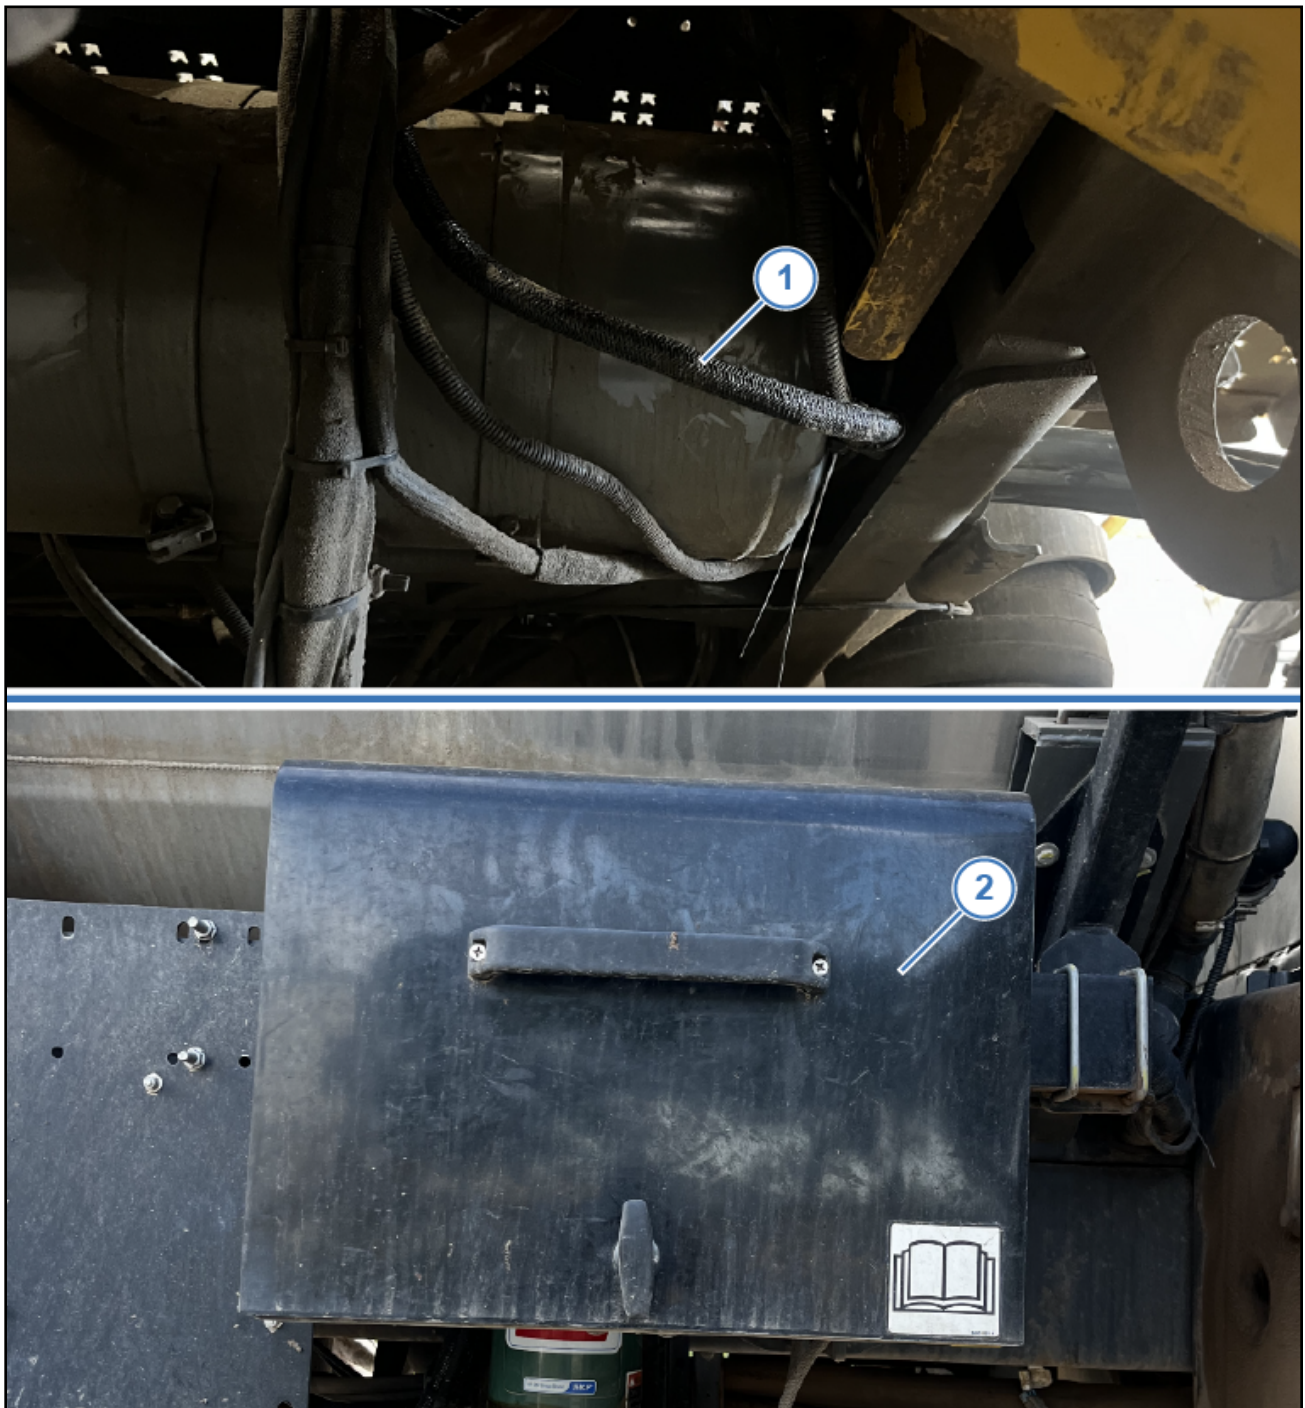

Figure 5: Controller Box
10. Route the Chassis Harness (Figure 5, Item 1) along the inside right frame rail to the controller box on the right side of the machine, behind the toolbox and fuel tank (Figure 5, Item 2).